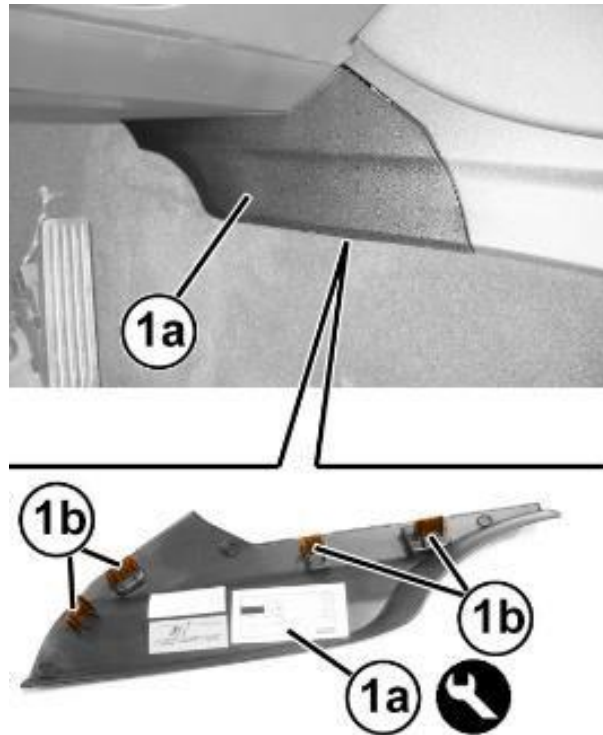

Figure 4 – Console Side Closure
10. Remove the console side closure (1a) by disengaging its inner retainers (1b) with the Trim Stick C-4829A (1823015000) (Figure 4).